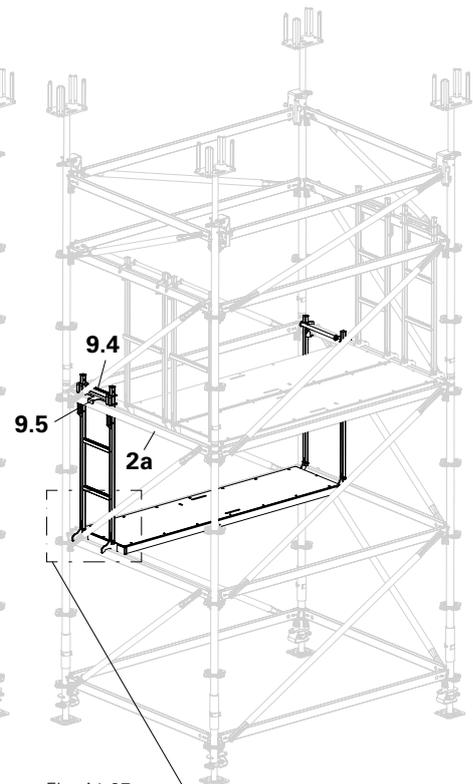

Fig. A1.27
3. 3. Pull yellow bar (9.4) on the opposite side upwards, disengage yellow lug (9.5) and hook in above the bottom Ledger (2a). (Fig. A1.27)